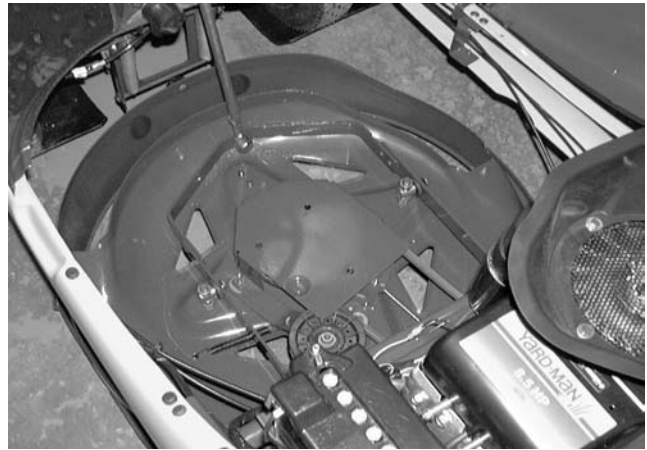

Figure 8-29.
6. Remove the deck belt cover from the deck assembly. See Figure 8-29.